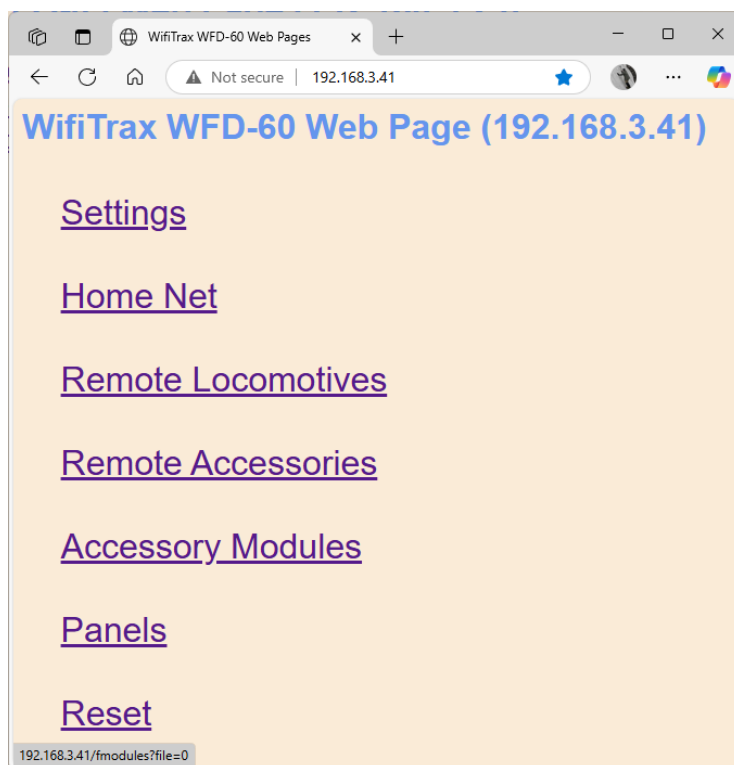

Figure 31 The WFD-60 Web Setup Main Menu (Note: Panels is only present in version 2.2.0 and above. Accessory Modules is only present in versions 2.6 and above)
- (1) Tap the “three dots” icon at the top right of the screen and select Web in the menu. You should now see the Web Setup Main Menu as in Figure 31. You can click or tap on any of the headings in the menu to access the setup for that feature. The section “Setup Advanced Features using a Web Browser” provides information about all of the menu options.
- (2) You now should see the WiThrottle Address page. At the bottom there should be four tabs Throttle, Address (highlighted in blue), WebServer and Settings. Tap on the WebServer tab and you should now see the Web Setup Main Menu as in Figure 31. You can click or tap on any of the headings in the menu to access the setup for that feature. The section "Setup Advanced Features using a Web Browser" provides information about all of the menu options.
- (4) You should now see the Web Setup Main Menu as in Figure 31. You can click or tap on any of the headings in the menu to access the setup for that feature.
To modify General Settings, tap the “Settings” heading in Figure 31.
To change to Home Net mode, tap the Home Net heading in Figure 31. Optionally download the FindModules app for later use (see section "FindModules App").